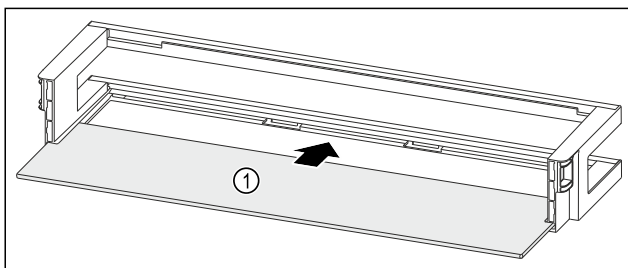

Fig. 90 Door rack with shelf
- ▶ Push the shelf Fig. 90 (1) into the side recesses.